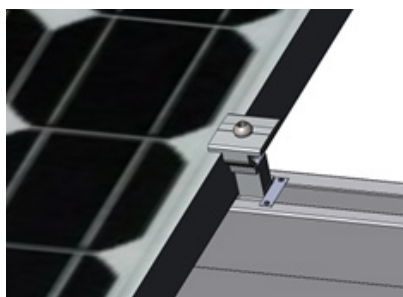

Fig.30
Step 4 When using as Inter Clamp, click the Universal Clamp into the channel of T Rail and then slightly lift the framed PV Module to make sure the Grounding Clip of Universal Clamp is fully covered as shown in Fig. 30.